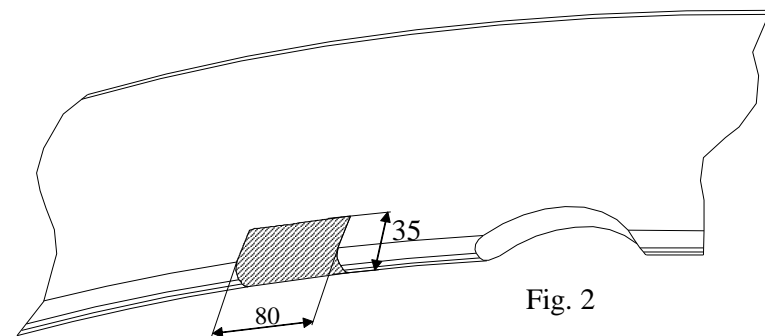

Fig. 2
- 2) Cut out fragment of the bumper in his bottom part, in axis – see fig. 2).
- 3) To left chassis member fix loosely element pos. 4 through holes A using bolts M12x40mm (pos. 6), next through technological hole put